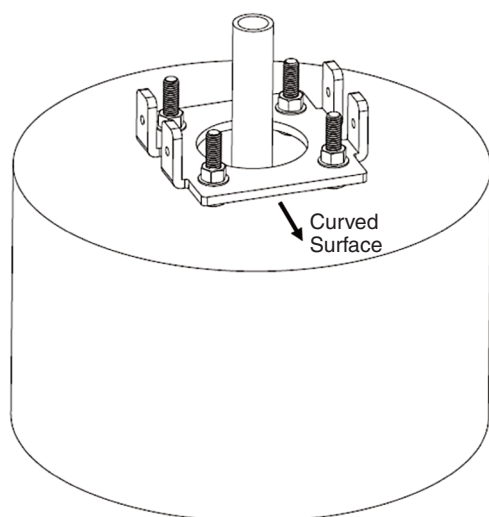

Fig. 6
- 6.) Remove the template and replace it with the mounting bracket (refer to **Fig. 6**). Make sure that the bracket is oriented in the desired position. The flat surfaces will align with the flanges. The curved surfaces will align with the sides without the flanges.